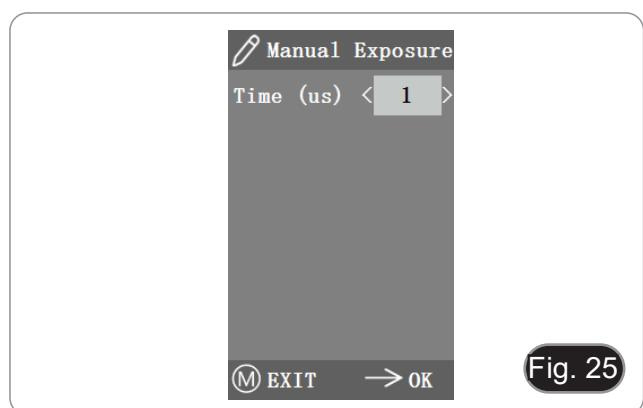

Fig. 25
- In manual exposure, you can also adjust the exposure by adjusting the value of "exposure time". (Fig. 25)